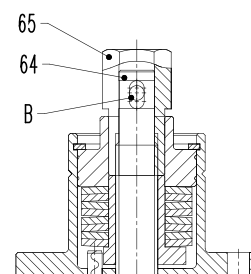

Figure 7-9
9. Turn the hexagon head (65) slightly counter clockwise until the first hole (B) of the hexagon head reaches the slot of the spindle (64); see «Figure 7-9».